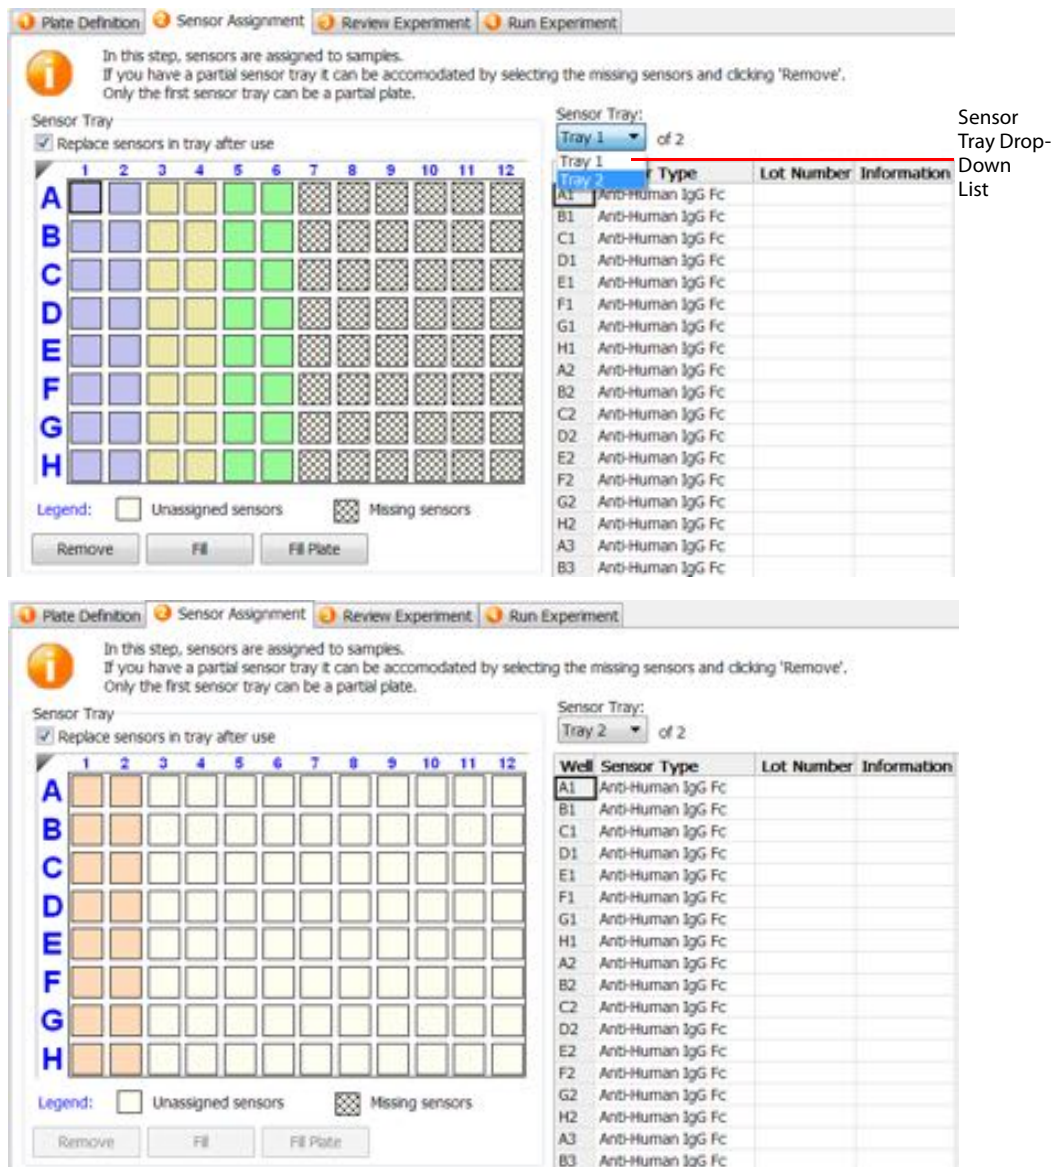

Figure 7-63: Example Assay Using One Partial Biosensor Tray and Biosensors from a Second Tray
2. To view the additional biosensor tray that is required for the assay, select Tray 2 from the **Sensor Tray** drop-down list (Figure 7-63). In the example shown, Tray 1 is a partial tray that does not contain enough biosensors for the assay. To designate a second tray, select Tray 2 from the **Sensor Tray** drop-down list (Figure 7-63 top). The **Sensor Tray Map** will then display the additional biosensors required for the assay (Figure 7-63 bottom).